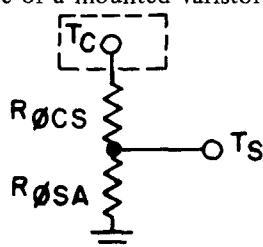

FIGURE 17
To describe the proper heat sink for any application, a fundamental knowledge of heat transference is required. Heat generated by power dissipated in the varistor, will flow through the mounting junction, to the heat sink, and finally to the surrounding ambient. The varistor case temperature (T_C) is a function of both the heat sink temperature (T_S) and the ambient temperature (T_A) which are directly proportional to the amount of heat flow (P) from the junction and the thermal resistances of the mounting ($R_{\theta CS}$) and the heat sink ($R_{\theta SA}$). Figure 17 shows a thermal schematic of a mounted varistor.